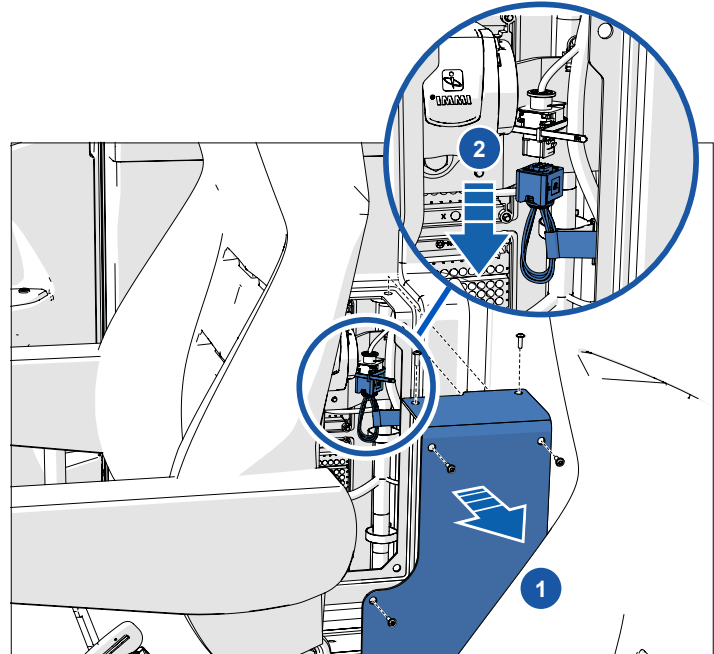

Figure 35 - LiquidSpring suspension safety disable connector
Before performing any work beneath the vehicle, always deactivate the vehicle's hydraulic suspension system by disconnecting the suspension's safety connector behind the passenger seat (see Figure 35).
4. Remove the hydraulic suspension system safety connector, which is located under an access panel behind the passenger seat (**Figure 35**).